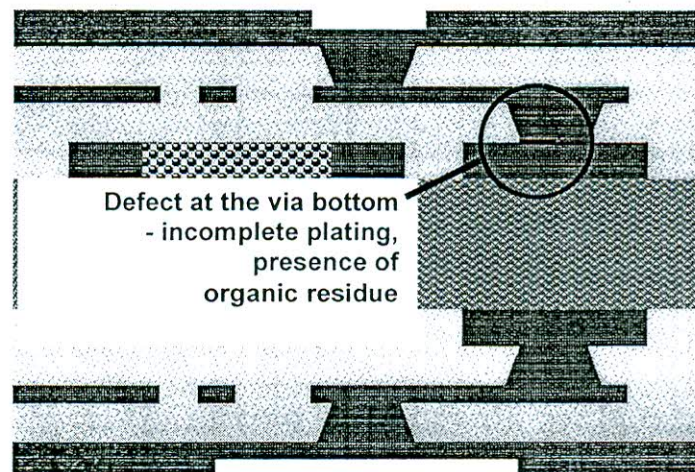

Figure 1
- [c] Every single substrate material shipped out by the substrate manufacturer is electrically tested for any opens or shorts within the substrate. However, during the open/ short test done after the substrate material is fully assembled (with die, underfill etc), a high resistance readout was detected. Upon further investigation and failure analysis, the following defect was observed in one of the via within the substrate (refer to Figure 1). Explain what are the potential process abnormality at supplier that could lead to the incomplete plating, presence of organic residue. Explain the implication of this defect to the performance of the substrate.